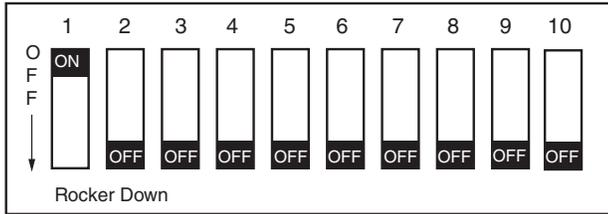

Fig. 66 — CoreSense Communication DIP Switch Settings for Kriwan Retrofit
2. Review the DIP switch settings on the CoreSense module. DIP switch no. 1 should be ON (up position) and all other DIP switches should be OFF (down position). See Fig. 66.